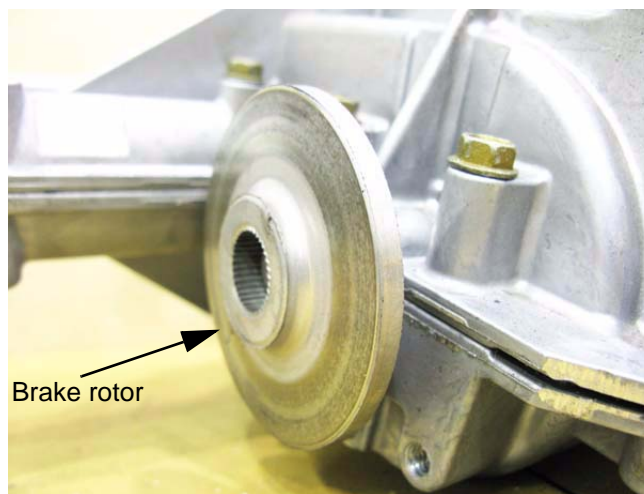

Figure 5.83
- 35c. Install the brake rotor, with the flat side facing the transaxle housing. See Figure 5.83.